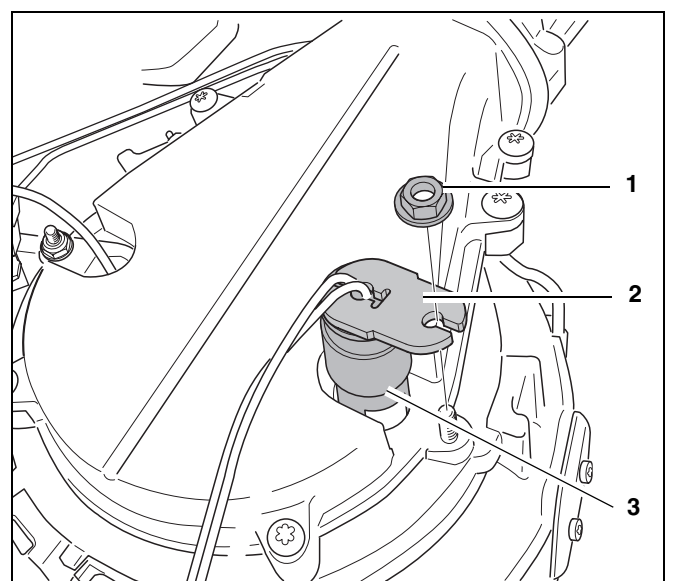

fig. 96 Replacing the ignition unit
- Disconnect the ignition unit (→ fig. 96, items 1, 2 and 3).